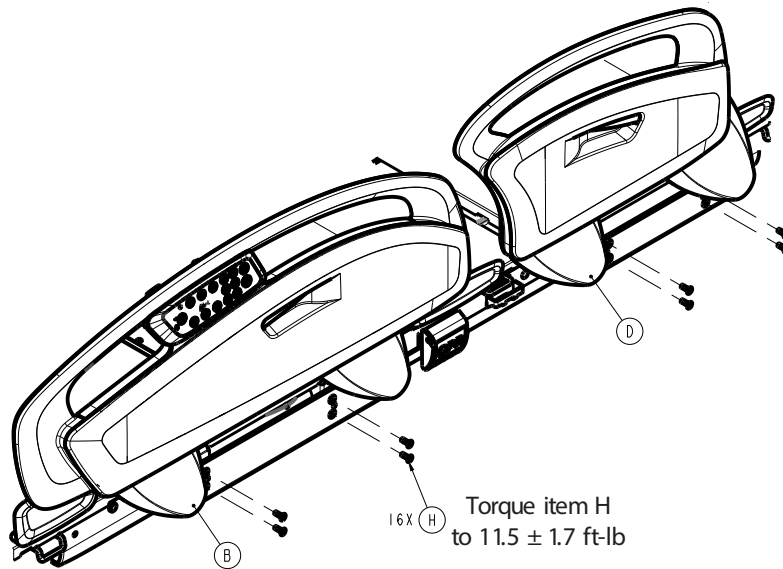

Figure 62 – Removing the assembly
10. Using a T30 Torx driver, loosen the four screws (H) that secure the siderail assembly to the litter frame (Figure 62).